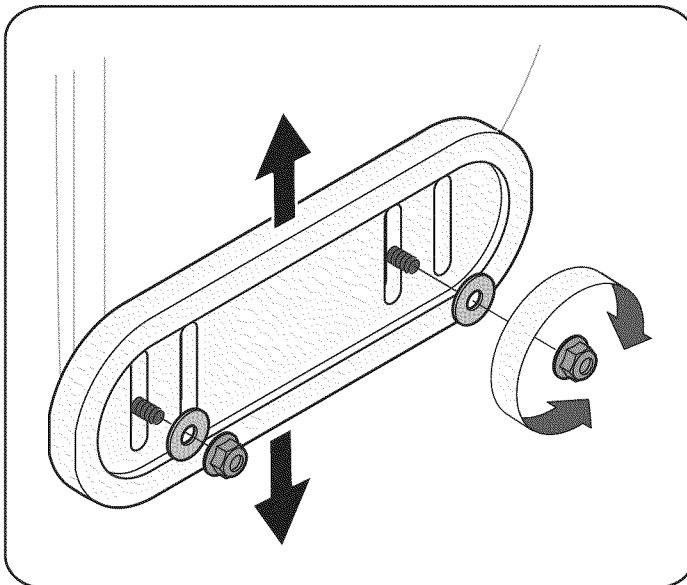

Figure 8
1. Loosen the four hex nuts (two on each side) and carriage bolts. Move skid shoes to desired position. See Figure 8.